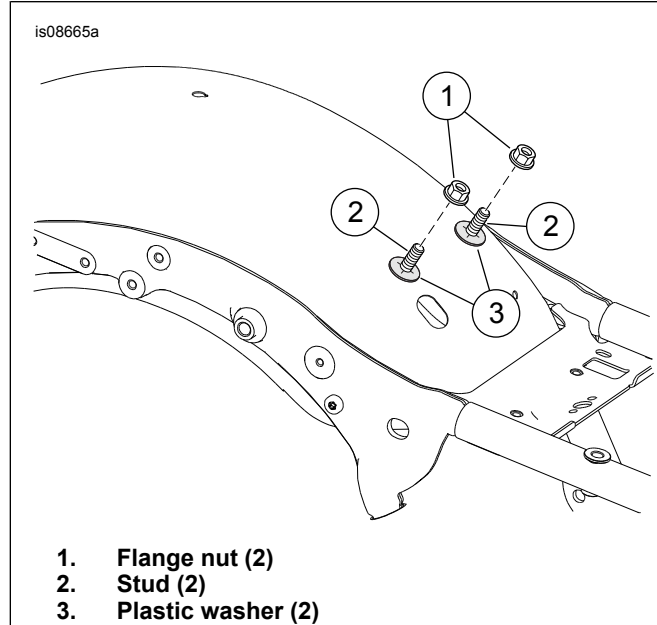

Figure 2. Mounting Hardware
3. See Figure 2. Remove nuts (1). Leave washers (3) and studs (2) in place.
5. Figure 2 Set mounting base over studs (2) and plastic washers (3).